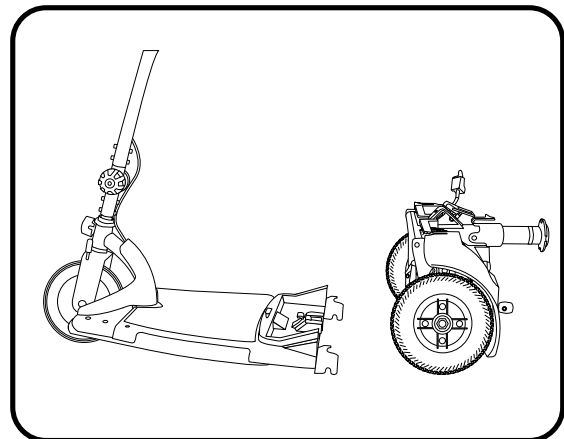

Figure 18. Frame Sections
4. Carefully lift the front section away from the rear section. **See figure 18.**
1. Position the front and rear sections of your scooter as shown in **figure 18**.